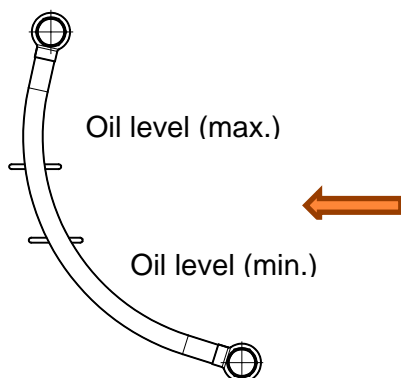

Fig. 4 Oil level control in operation
- While the device is at a standstill, fill with lubricant at least to the middle of the oil level marking (see Fig. 4) (Item 12). If the oil level falls below the lower marking during operation, oil in the specified quality must be topped off until the original oil level is reached again